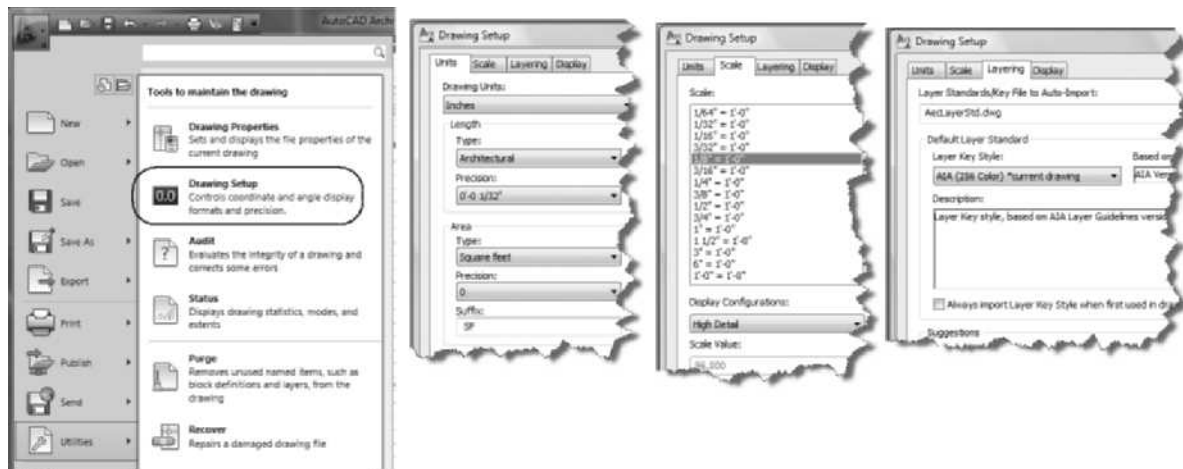

FIGURE 1.47 Applying Drawing Setup
5. To set the scale and display configuration link, choose the **Scale** tab, change the scale to **1/4" = 1'-0" [1:50]**, verify that Annotation plot size = **3/32" [3.5]**, and check the **Automatically Create Dimscale Override** checkbox. Choose **High Detail** from the Display Configuration flyout. Choose the **Layering** tab and verify that the **Layer Standards/Key File to Auto-Import** is **AecLayerStd.dwg** and that the **Layer Key Style** is **AIA (256 Color)*current drawing [BS1192 Cisfb (256 color)*current drawing]**, as shown in Figure 1.47.